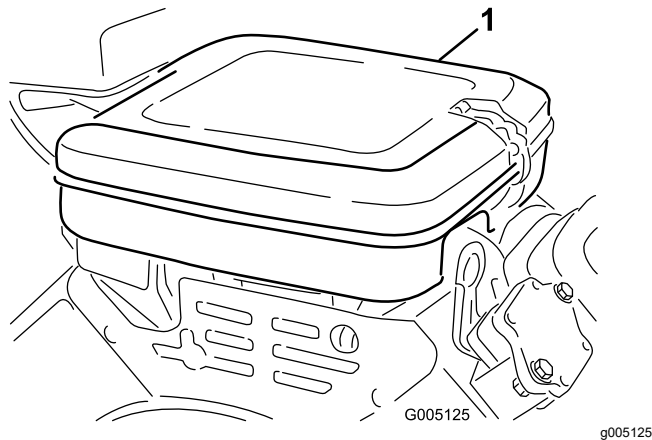

Figure 33
1. Clean the air-cleaner cover (Figure 33).